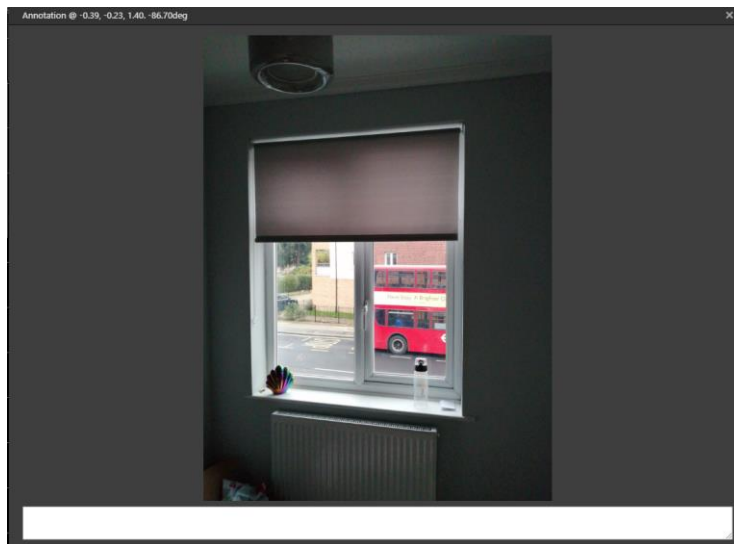

Figure 14 - An example of opening the image from the viewer.
3. Images and notes will appear as icons in the viewer. Double click on the icon in the viewer to open the picture/note (Figure 14).